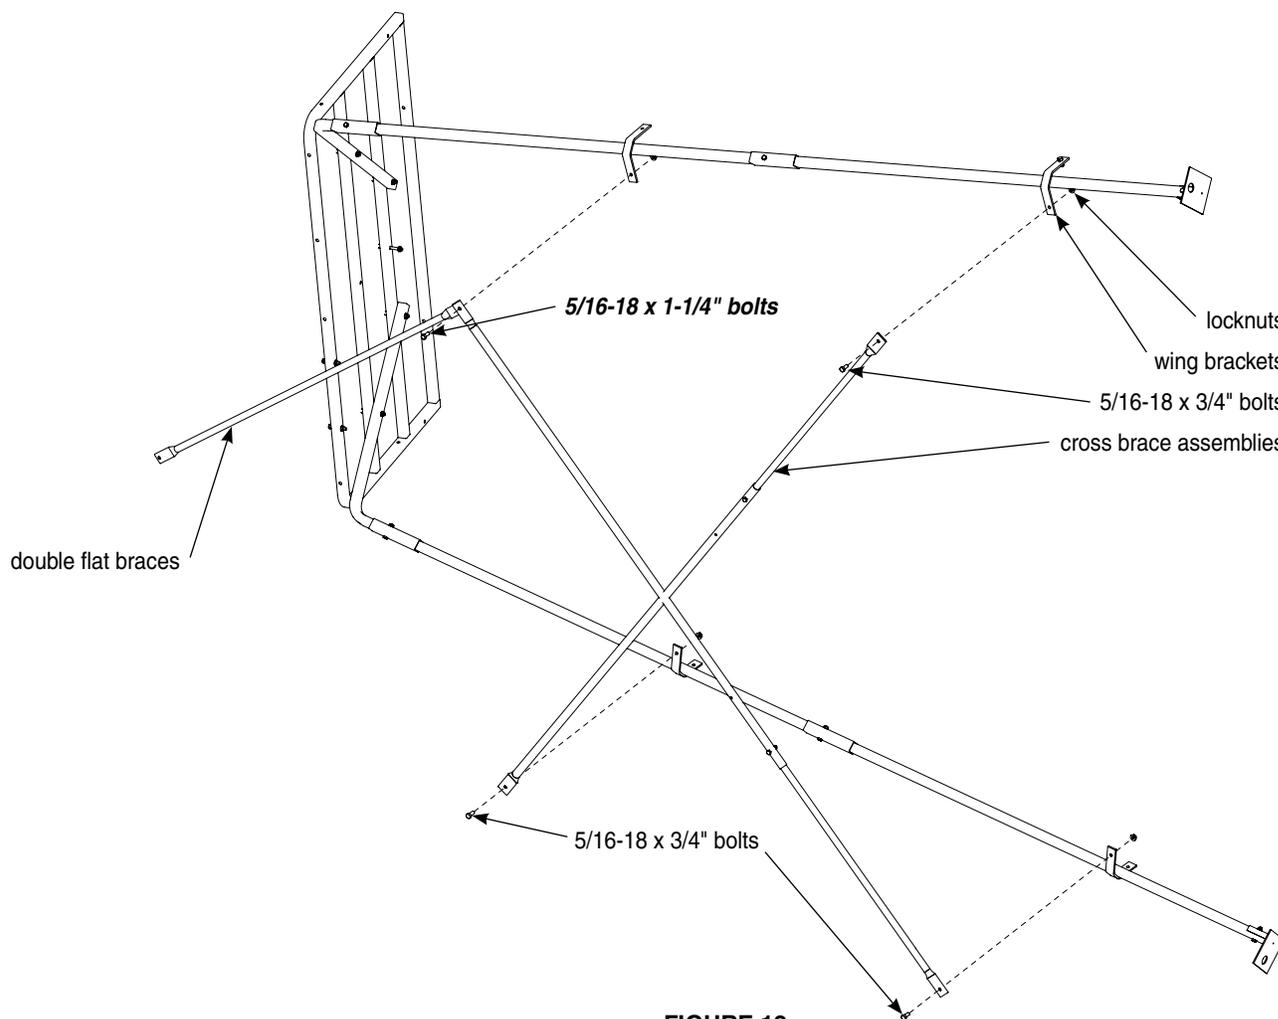

FIGURE 12
18. a. Attach the opposite end of all four double flat braces to the wing bracket of each top leg section using (4) provided 5/16-18 x 1-1/4" bolts and locknuts. **SEE FIGURE 12.**
- b. Attach (2) cross brace assemblies to wing brackets of leg sections, on each side of the tower (8 total cross brace assemblies), using (12) provided 5/16-18 x 3/4" bolts, (4) 5/16-18 x 1-1/4" bolts and (16) locknuts. **SEE FIGURE 12.**